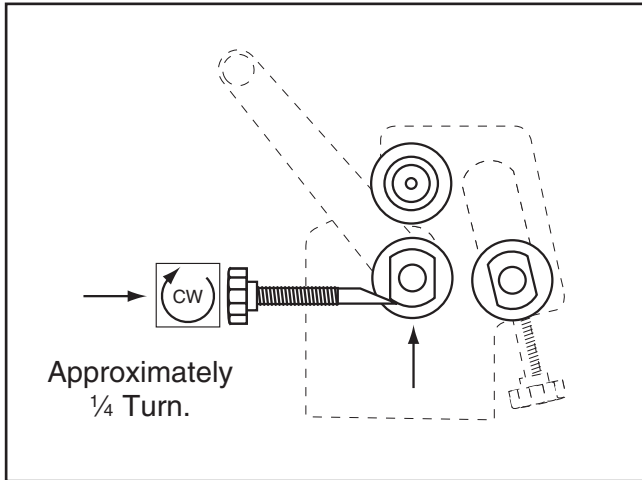

Figure 15. Raising bottom roller $\frac{1}{4}$ turn.
- Remove the workpiece from between the rollers, then raise the bottom roller slightly by rotating each thickness adjust knob approximately $\frac{1}{4}$ turn. Also, make sure the rear roller is lowered completely and will not interfere with the workpiece as it exits the machine (**Figure 15**).